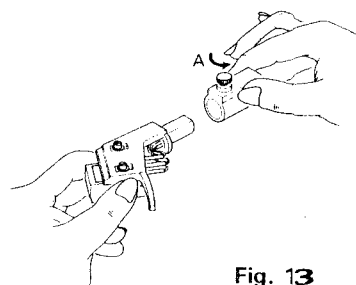

Fig. 13
5-(1) Removal and mounting of the headshell (Fig. 13)